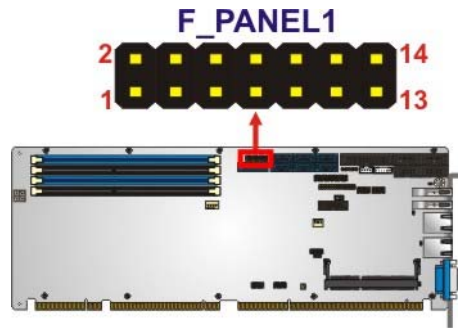

Figure 3-11: Front Panel Connector Location
- CN Location:** See **Figure 3-11**